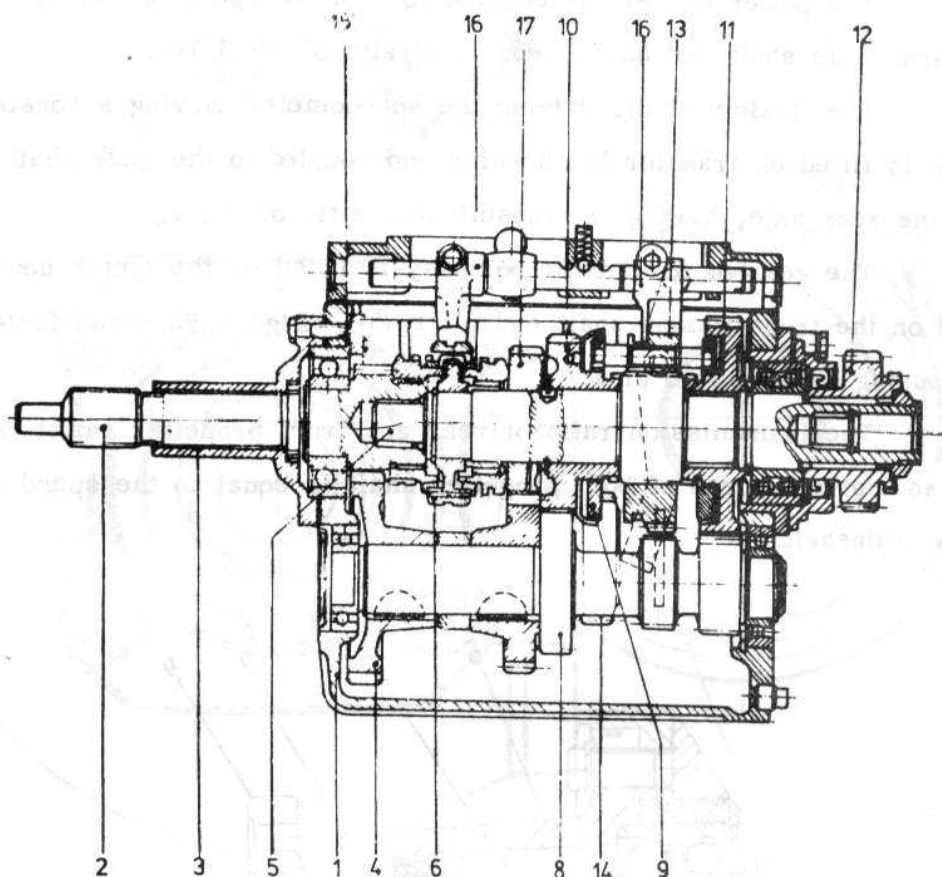

Fig. 4.95. GEARBOX LONGITUDINAL SECTION
The gearbox & transfer box assy is fitted on the clutch housing being centred on the transmission shaft end plate (3) - Fig. 4.95 - and fastened to clutch housing by four stud pins.